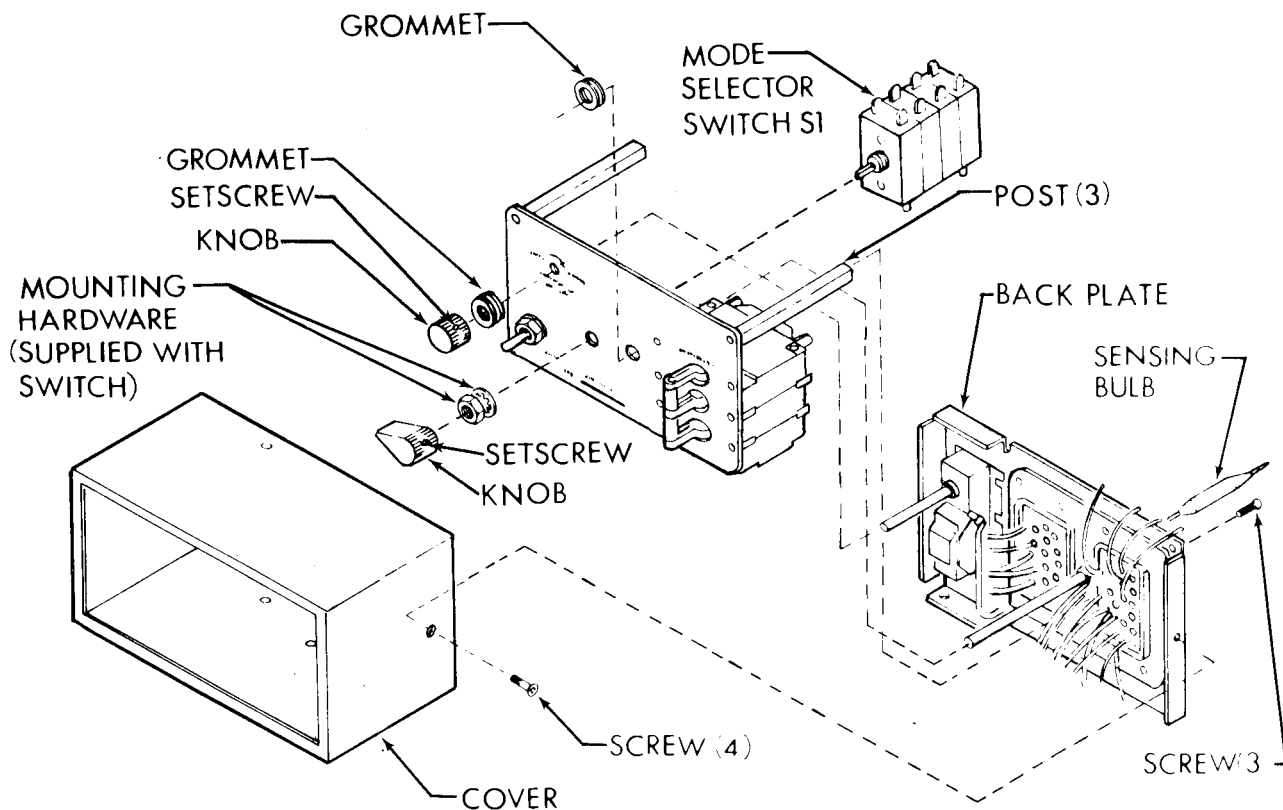

Figure 4-20. MODE SELECTOR Switch S1
The MODE SELECTOR switch S1 is the rotary type switch located in the control module. (See fig. 4-20.)
- (1) Disconnect power at power source.
- (2) See paragraph 4-21a and remove control module.
- (3) See figure 4-20 and remove four screws and pull cover off.